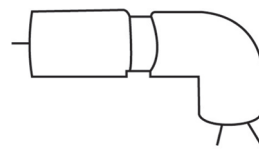

Figure 3: Nacelle. NEED Exploring Wind Energy: Teacher guide (pg 22)
- The instructor should build the Nacelle (the upper housing unit for inner working parts of the turbine, Figure 3) and it will need to be fitted on the top of the base when the first group is ready to test their blades.